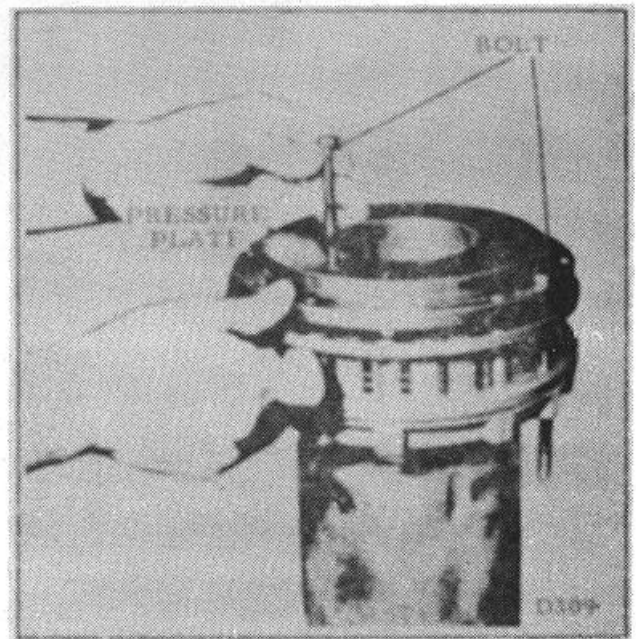

Figure 27.
6. Place the pressure plate on top of the springs, using two mounting bolts to align the bolt holes. (Fig. 27) Remove the bolts.